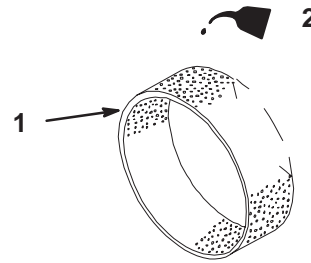

Figure 34
- C. Put oil on the element (Fig. 34). Squeeze the element to distribute the oil.